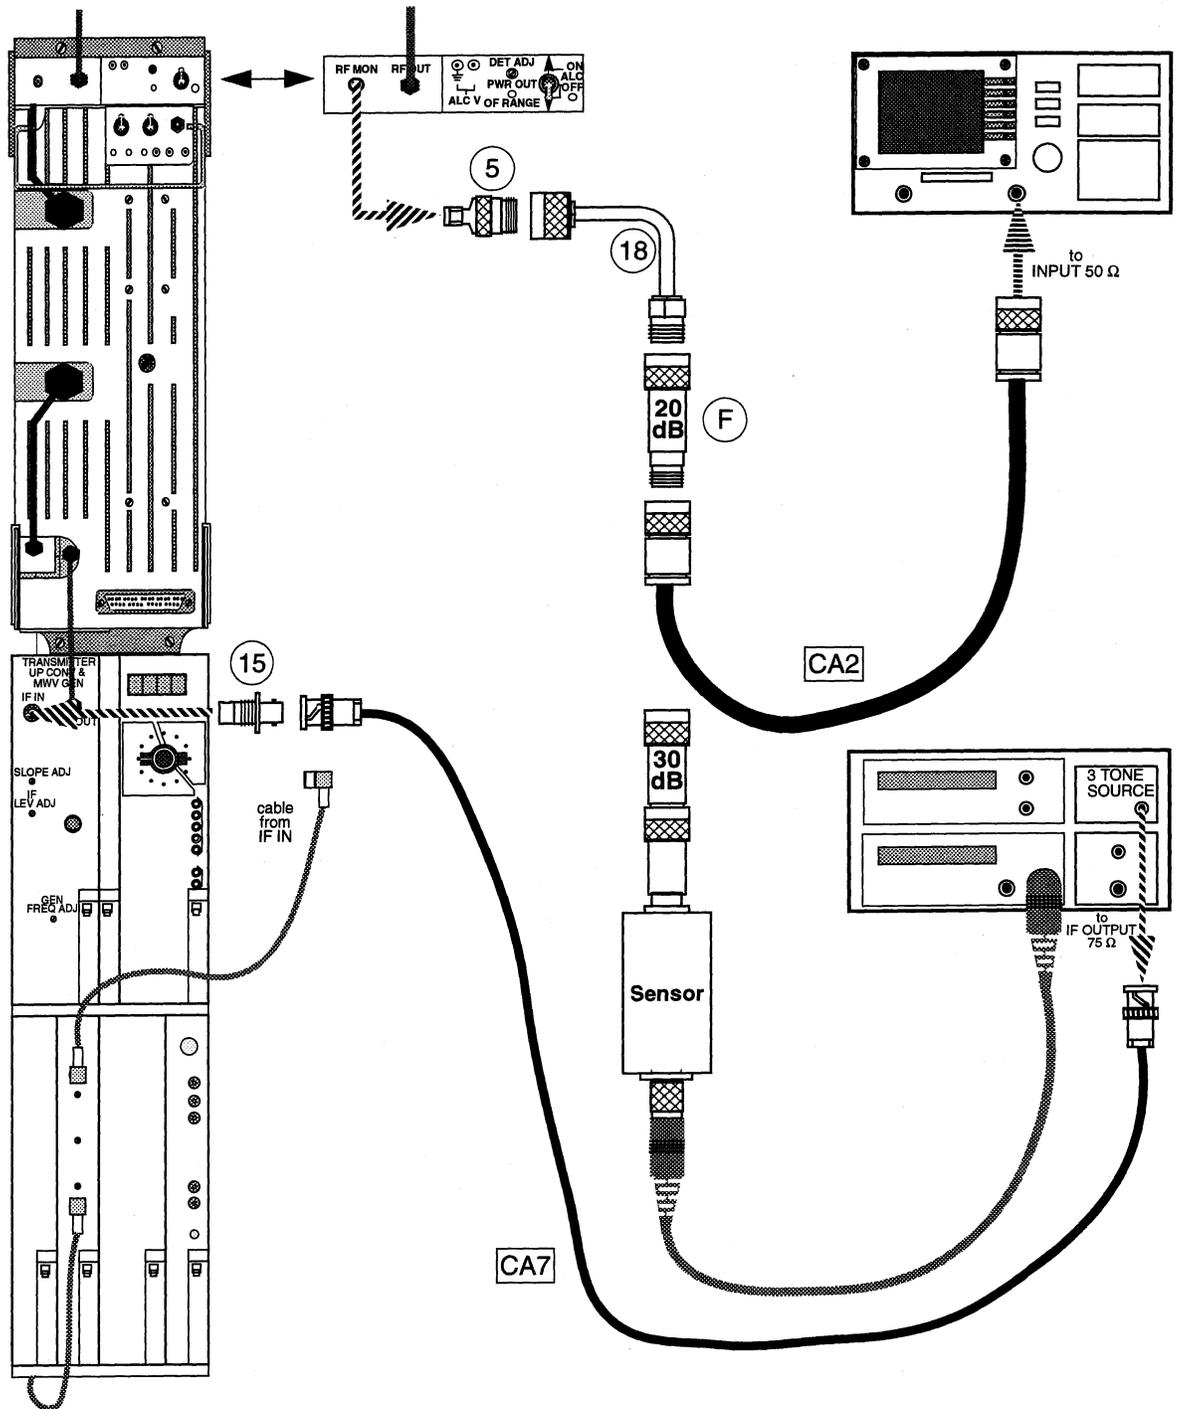
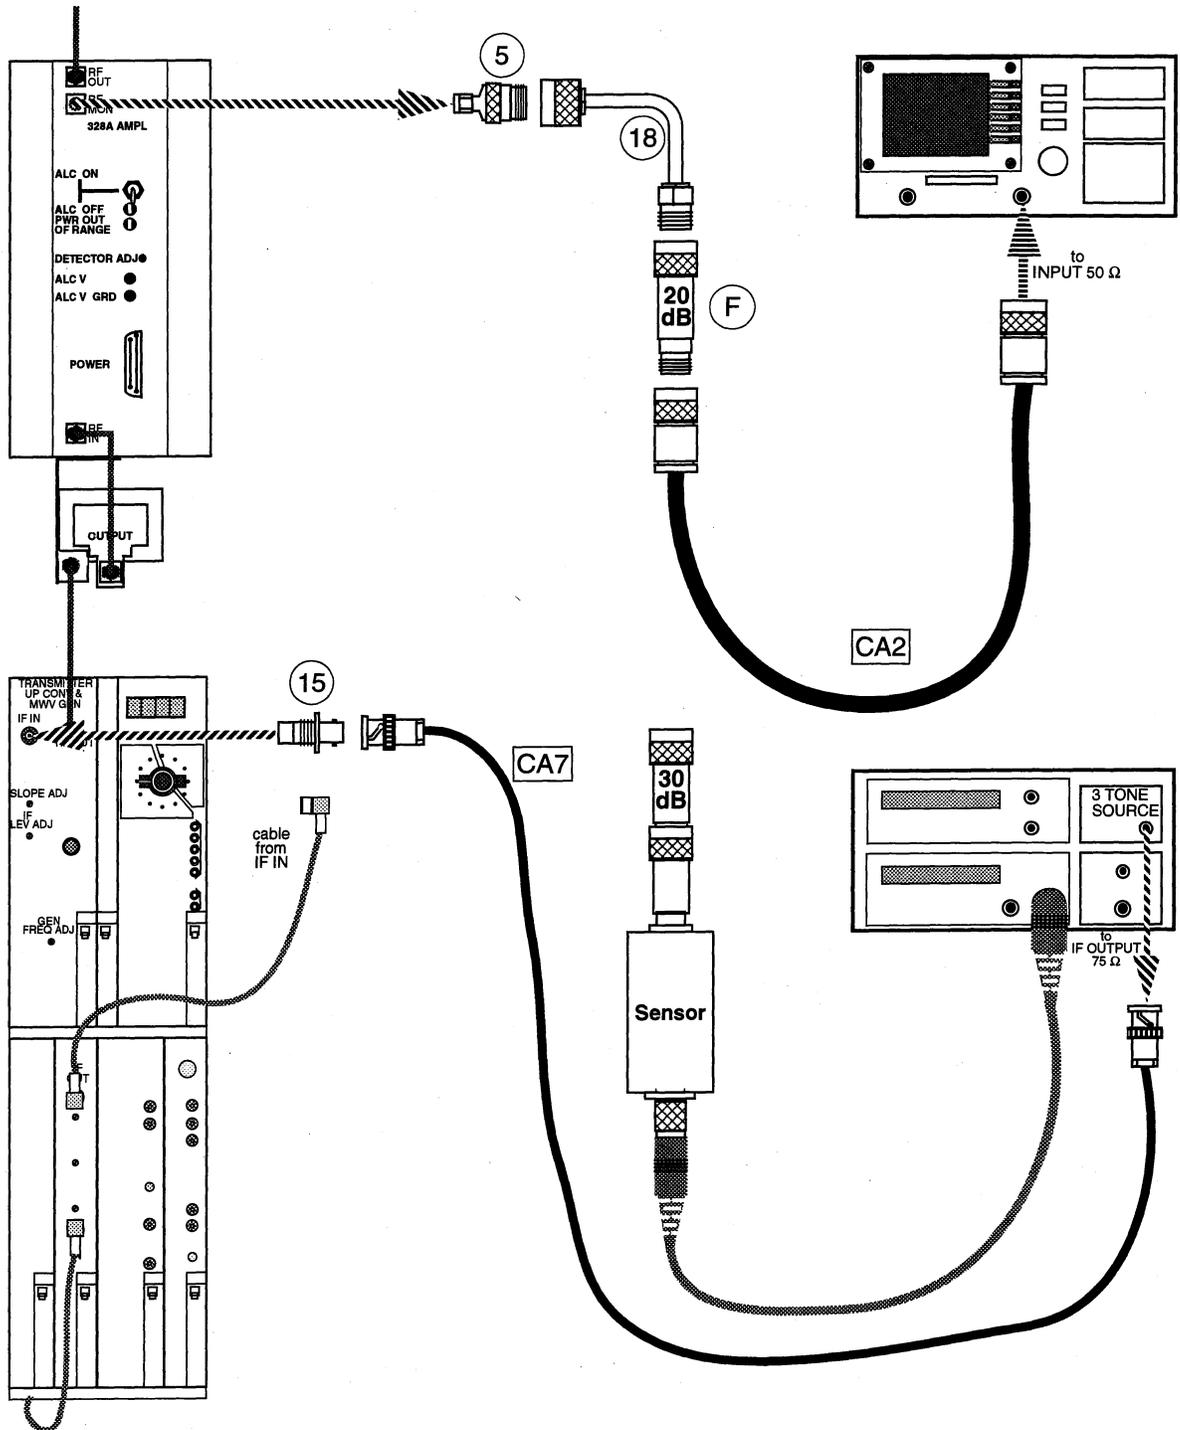

Figure 26. Measuring Linearity at RF MON (Predistorter Bypassed)—TWT
Figure 27. Measuring Linearity at RF MON (Predistorter Bypassed)—Solid State
- 11 Connect the test equipment as shown in Figure 26 (TWT) or Figure 27 (Solid State) in the following sequence: